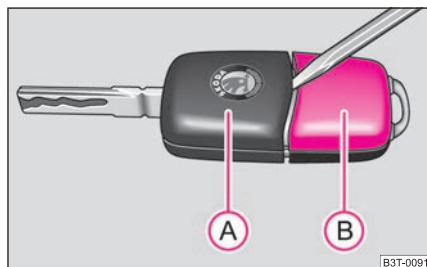

Fig. 23 Disconnect key with radio remote control
Each radio-operated key contains a battery which is housed in the cover  of the transmitter housing ⇒ fig. 23. We recommend that you have ►
- Use a thin screwdriver to carefully lever off the front part of the key (A) ⇒ page 36, fig. 23 from the transmitter housing (B).